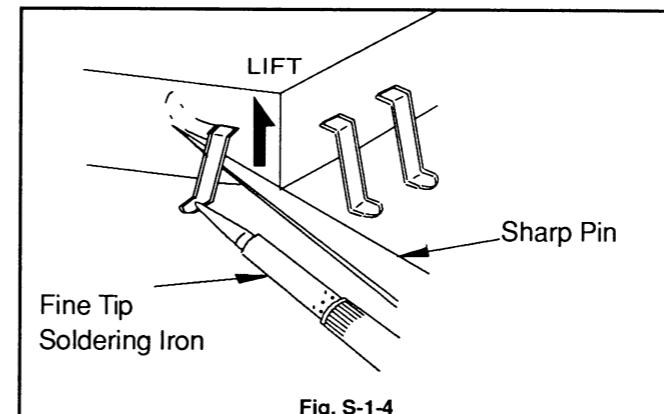

Fig. S-1-4
- Lift each lead of the flat pack-IC upward one by one, using a sharp pin or wire to which solder will not adhere (iron wire). When heating the pins, use a fine tip soldering iron or a hot air desoldering machine. (Fig. S-1-4)